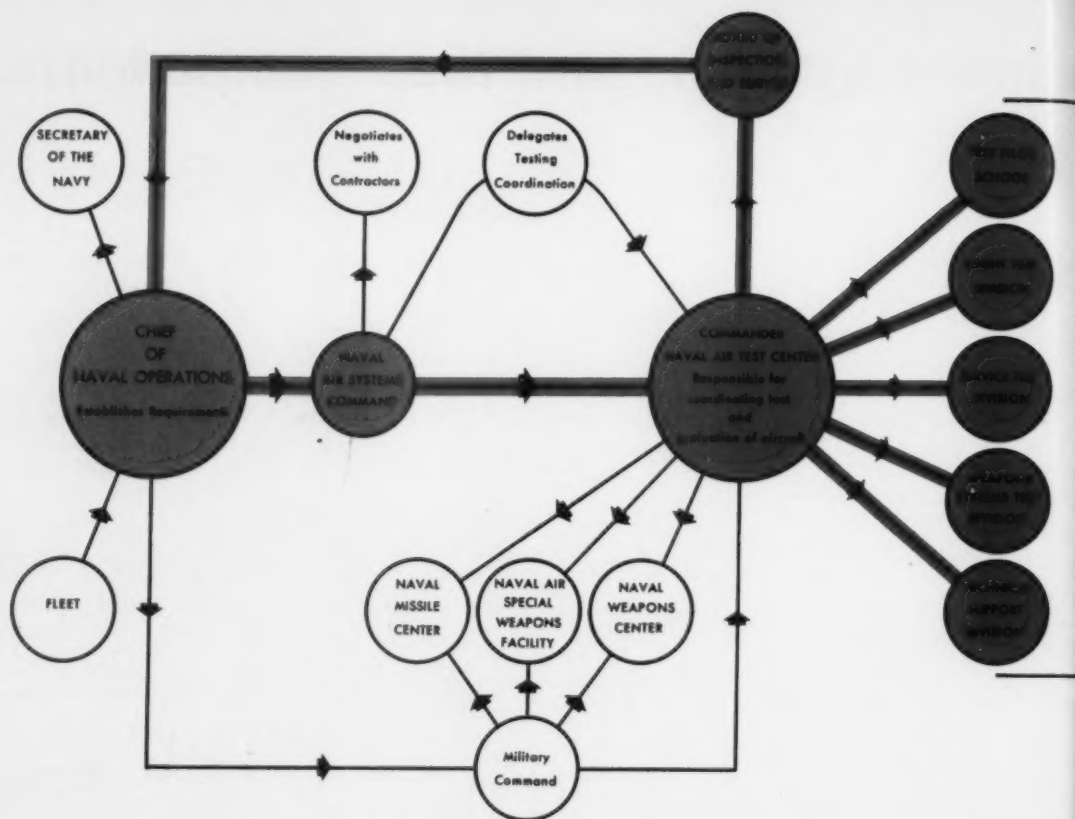

FIGURE 1
Figure 1 graphically outlines the chain of command above and within NATC. Basically the Test Center consists of five major divisions: (1) Test Pilot School; (2) Flight Test; (3) Service Test; (4) Weapons System Test; and (5) Technical Support.